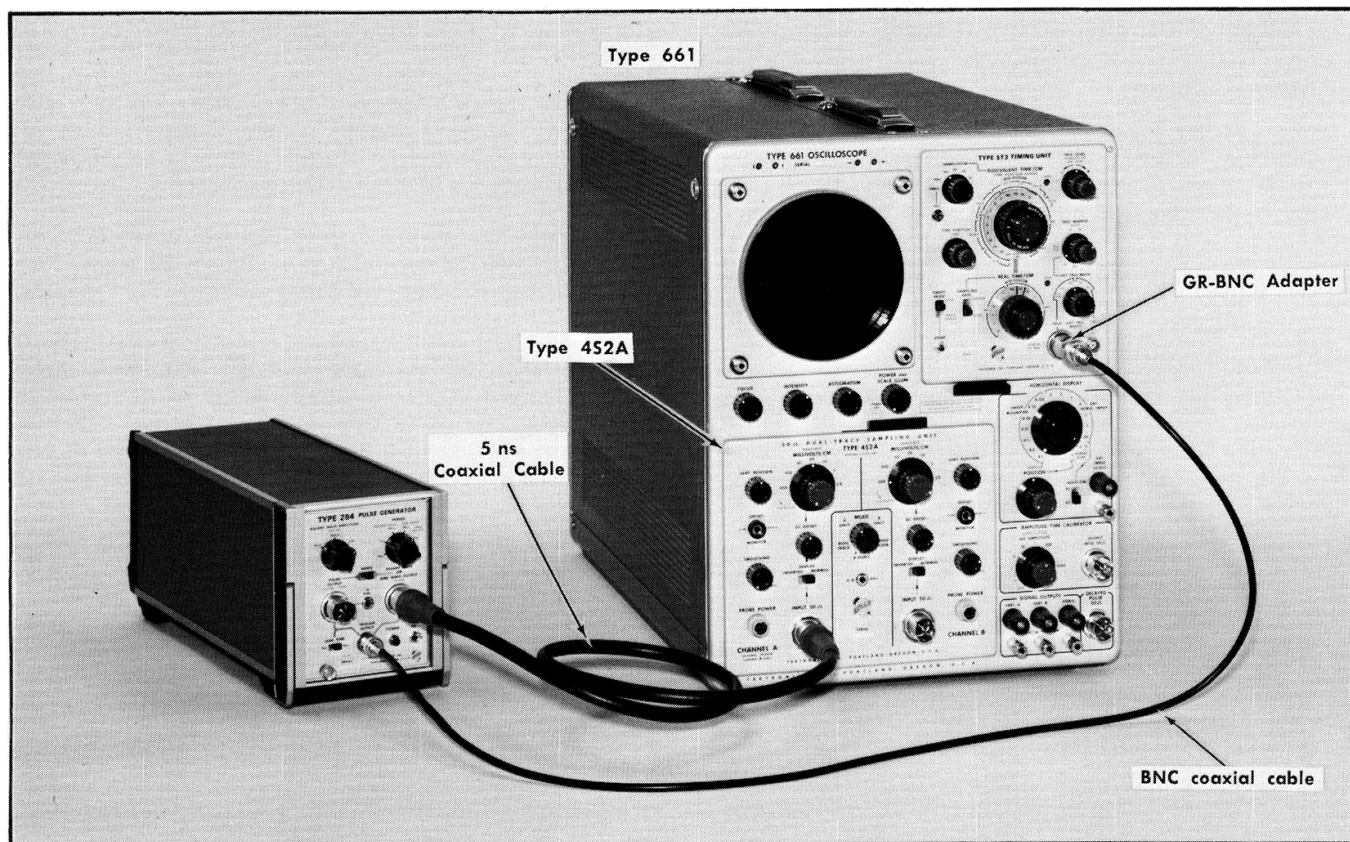

Fig. 6-19. Initial equipment setup for steps 11 and 12.
①
a. Use the initial equipment setup shown in Fig. 6-19, by connecting the SINE WAVE OUTPUT signal from the Type 284 through a 50 Ω coaxial cable to the Channel A 50 Ω input connector on the Type 452A. Connect TRIGGER OUTPUT signal from the Type 284 through a BNC coaxial cable and a BNC to GR adapter to the 50 Ω Ext Trig Input connector.